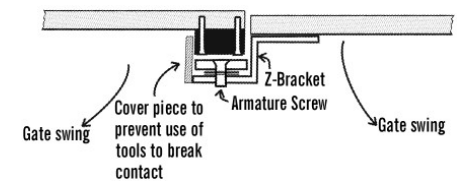

FIG. 5 - Basic Installation
B. Mount the electromagnet (fig. 5) — In most cases, the position of the electromagnet will determine the location of the armature plate. Make sure there is space to run the cable.
- C. Mount the armature (fig. 5) — Once the electromagnet is mounted, determine the correct position of the armature. Use the appropriate L-bracket or Z-bracket to position the armature so that it will lay against the electromagnet when activated. However, leave a slight gap between the two so that the armature does not slam against the electromagnet when the gate is closed.